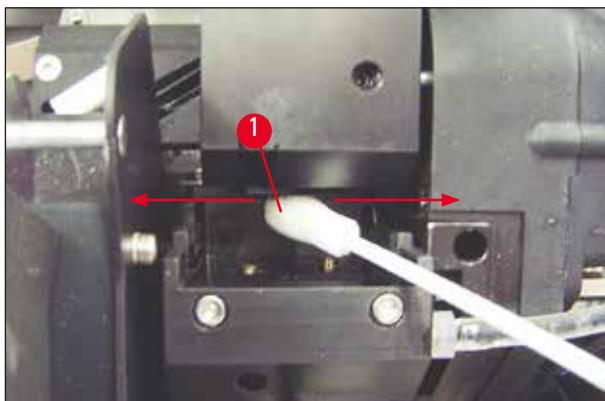

Fig. 54
- Carefully insert the swab into the gap under the print head (→ "Fig. 54"). Apply light pressure upwards (on the print head) and move the foam swab back and forth (approx. 10 times). This procedure removes dried ink residues.